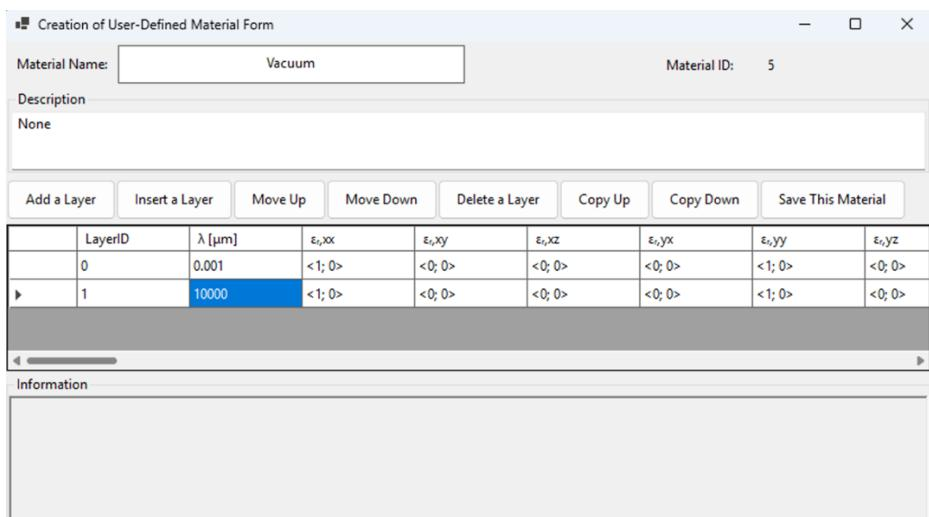

Figure 12. Tables after wavelengths are modified
7. After sub-steps 5 and 6, the tables will be shown as the Figure 12.